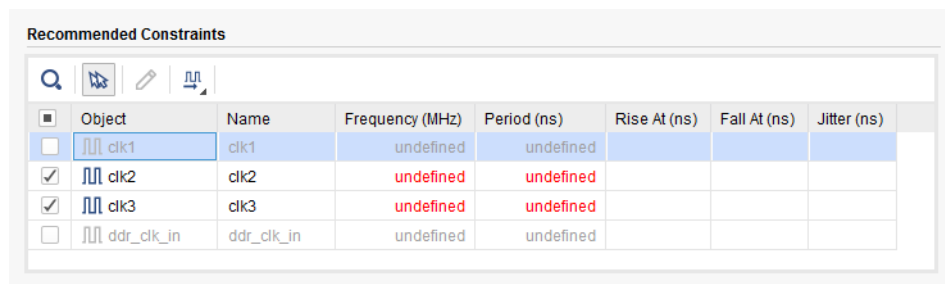

Figure 2-12: Creating and Skipping Recommended Constraints
In Figure 2-12, clk1 and ddr\_clk\_in are unchecked and will be skipped.
- Enter the missing values by clicking on the cells that show **undefined** (for example, the **Frequency** or **Period** value for clk2 and clk3 in Figure 2-12).